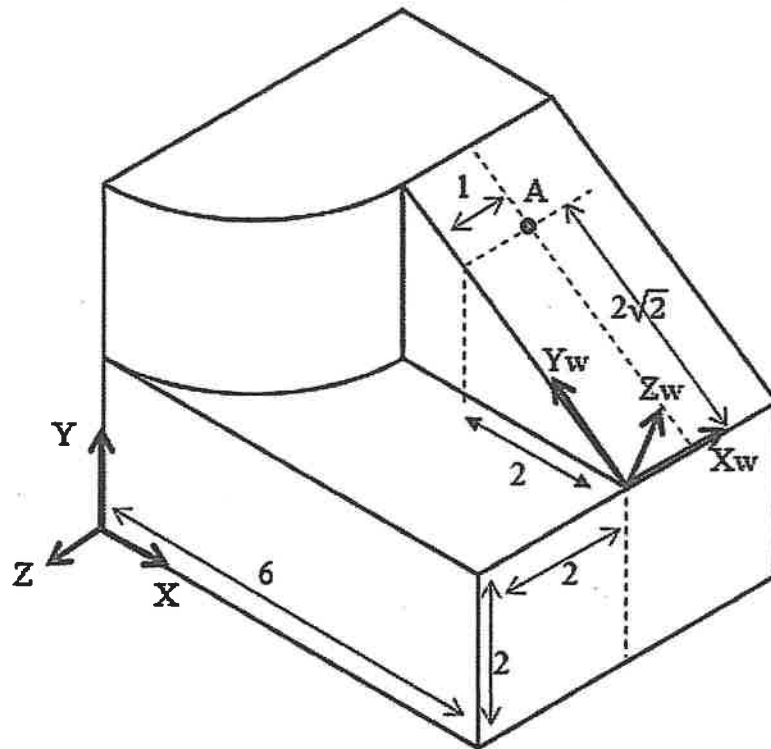

Figure Q2(d)
- d) Obtain the coordinates of **Point A** given in **Figure Q2(d)** according to the model coordinate system.